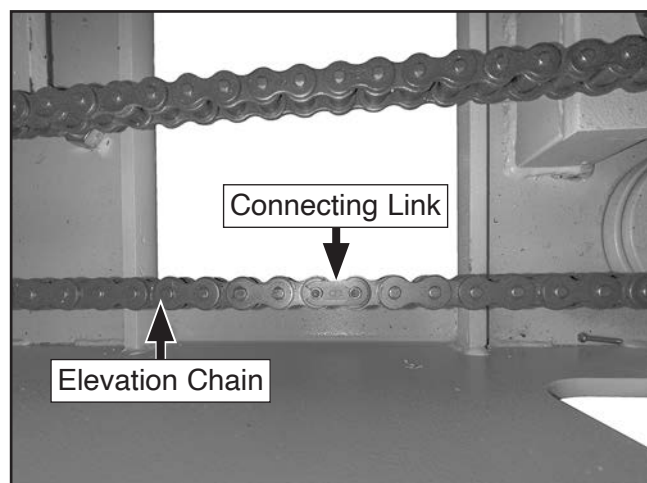

Figure 85. Location of elevation chain connecting link.
2. Raise or lower table to position elevation chain connecting link in an accessible location (see **Figure 85**).